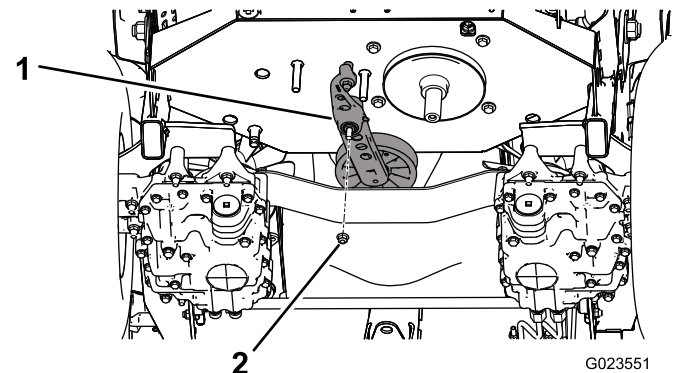

Figure 56
5. Remove the nut that secures the tensioner assembly to the frame (Figure 56).